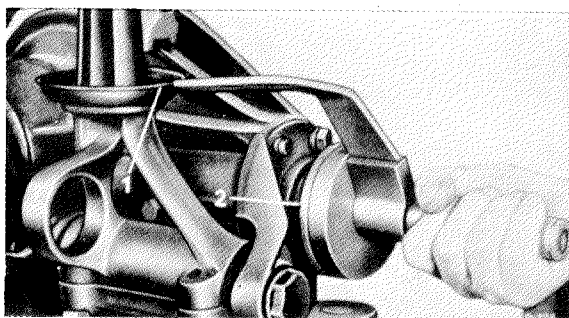

Fig. 35 — 4/19
Since this distance is difficult to measure in practice, the adjusting and checking device is held against the joint flange (2) and the front edge of the cup (1) (Fig. 35 — 4/19).